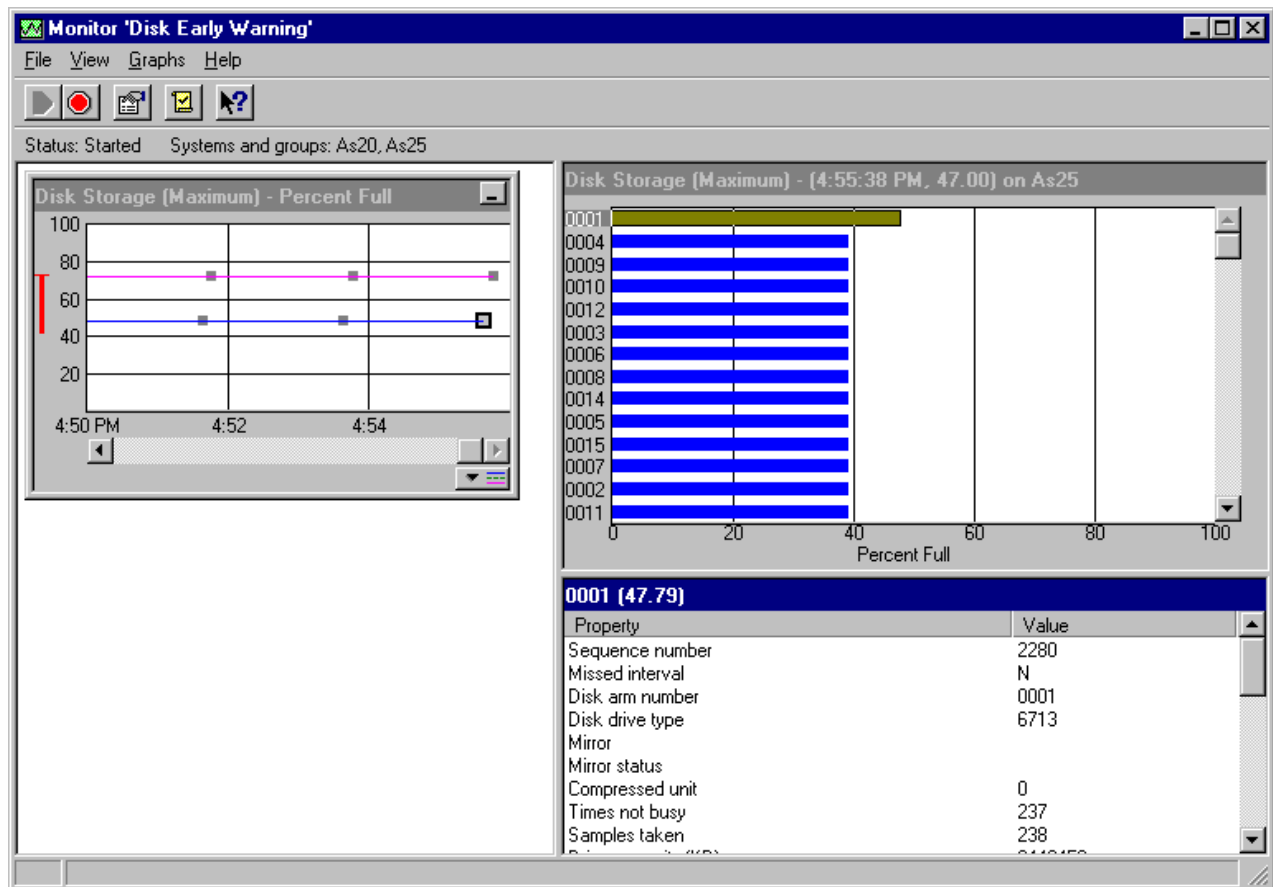

Figure 61. Disk Utilization Monitor: Detail and property panels
- When planning to replace older disk models on your AS/400 system, you need to examine the storage utilization of these older models. This monitor can be used to display this and other relevant information about each individual disk drive. Click on one of the data points in the graph, and the Detail panel shows information about the storage capacity utilization for each disk drive. Click on the bar for each disk drive, and comprehensive information about that disk appears in the Property panel. For example, you see the model number and whether the unit is mirrored or compressed. Figure 61 shows an example of this. You can also determine whether the system needs rebalancing usage among the disk storage drives from this output. In this figure, the Detail panel has been normalized to the graph scale.